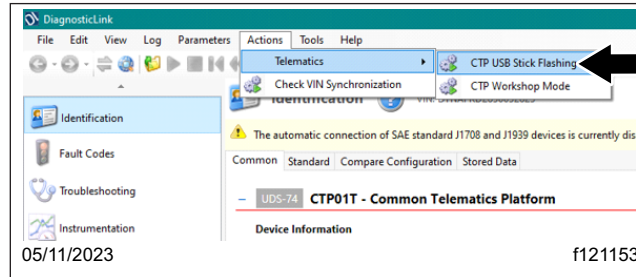

Fig. 25, Opening the CTP USB Stick Flashing Window
10. In the menu bar, go to 'Actions,' select 'Telematics,' then select 'CTP USB Stick Flashing.' See Fig. 25.